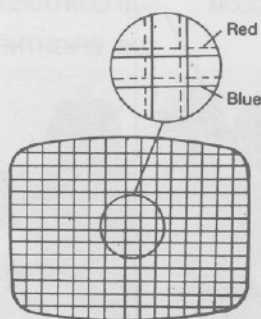

Figure 3-10.
3. Adjust the tabs on the four-pole magnet rings so that the red and blue patterns overlap to form a registered magenta pattern at center screen. Refer to Figure 3-10.